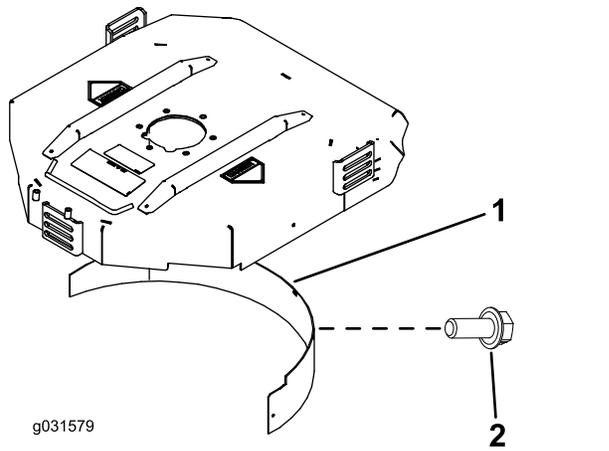

Figure 16
2. Install the mulching baffle in the rear opening and secure it with 5 flange-head bolts (Figure 16).